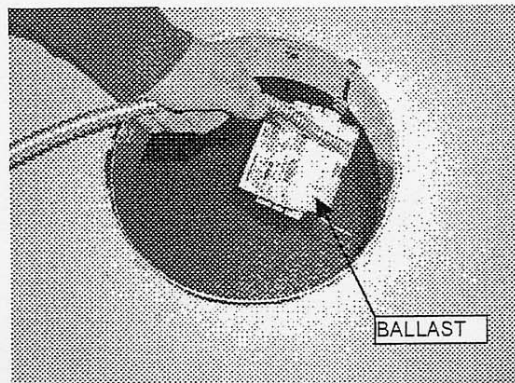
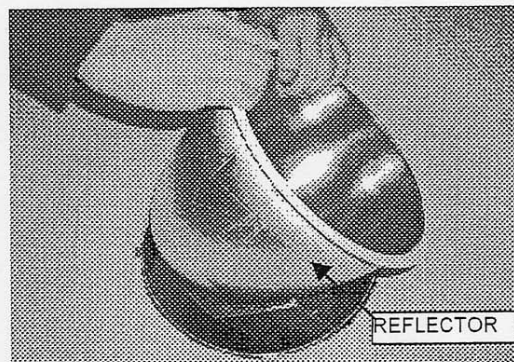
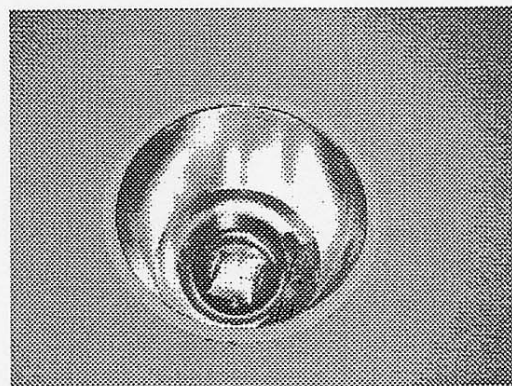

FIGURE 7 / CUADRO 7
FIGURE 8 / CUADRO 8 )
FIGURE 9 / CUADRO 9
5. Insert BALLAST into opening and make necessary electrical connections, as shown in FIGURE 7. Push REFLECTOR into the MOUNTING RING, as shown in FIGURE 8, until flush with ceiling as shown in FIGURE 9.